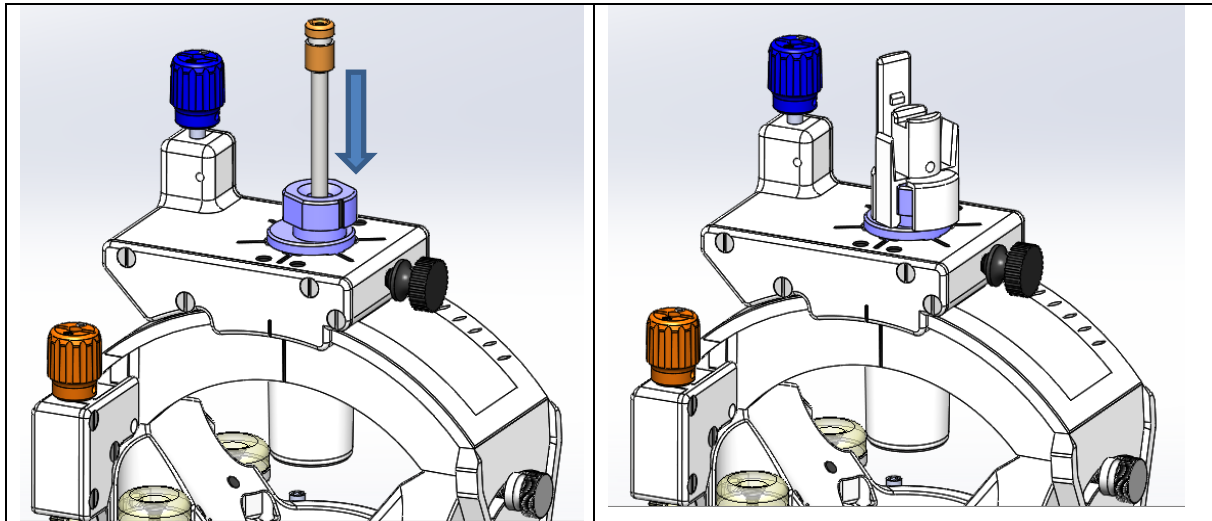

Figure 38: Inserting Guide Tube (Left) and Attaching Dock (Right) to the SMARTFrame Array Tower
3. If necessary, insert the Guide Tube into the Insertion Guide. **See Figure 38 Left.**
4. Insert and snap lock the Dock in place. **See Figure 38 Right.**